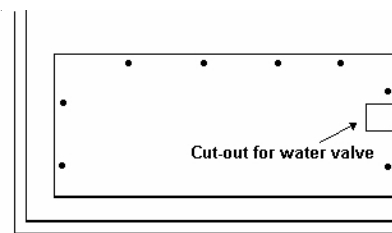

Figure 4
5. If the condenser coil is interior (see Figure 4), you will need to remove the screws that attach the access cover at the bottom of the unit. While cover is off look to see if you need to cut away the opening for the water inlet valve.